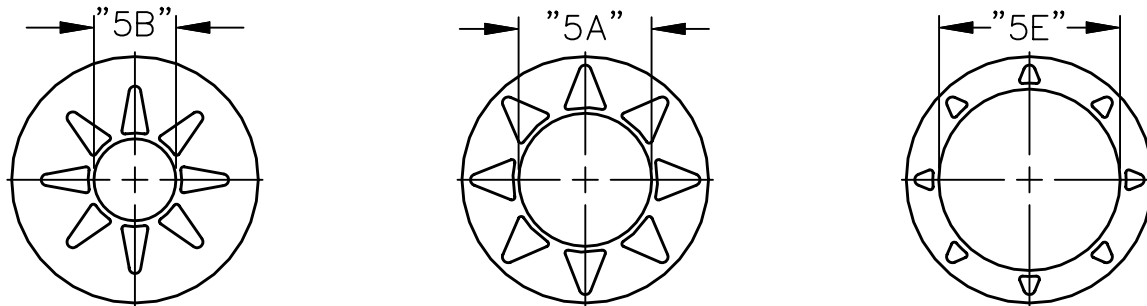

FIGURE 2
4. Replace gasket with desired size. (See Figure 2 Reference Chart)